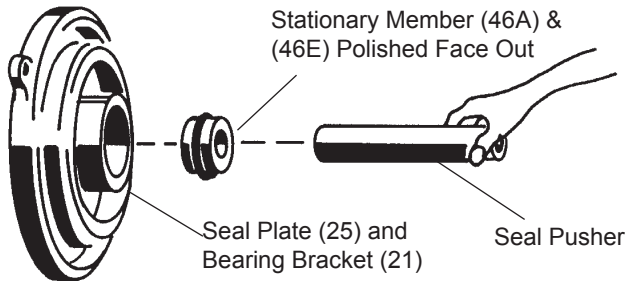
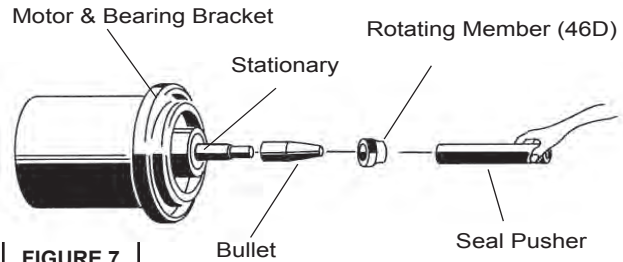

FIGURE 6
FIGURE 7
Make sure the stationary members are in straight and that the rubber ring is not out of its groove. Lightly oil (**DO NOT use grease**) shaft and inner surface of bellows on rotating member (46D) See Figure 7. With lapped surface facing bearing bracket (21), slide rotating member (46D) onto shaft, using seal pusher, until lapped faces of (46D) and (46E) are together (See Figure 6). It is extremely important to keep seal faces clean during assembly. Dirt particles lodged between these faces will cause the seal to leak.